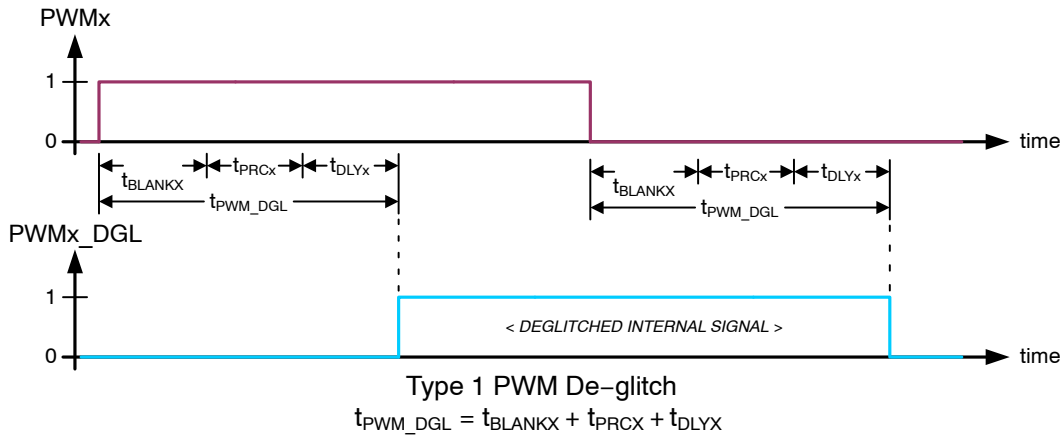
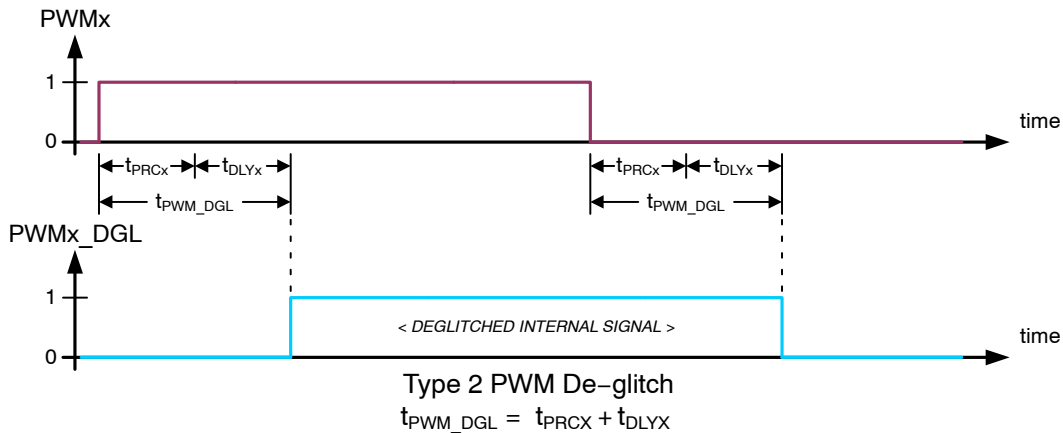

Figure 10. Type 1 PWMx Input De-glitch – CR14.DGLx = 0
Figure 11. Type 2 PWMx Input De-glitch – CR14.DGLx = 1
When multiple PWMx inputs are needed to be active, the scheduled PWM signals should be offset in time to avoid degradation of the VDS overload detection due to crosstalk (see § *Overload Protection*). The minimum offset should be based on the t_{PWM_DGL} times appropriate for the respective channels (see § *Switching Behavior of Half-bridge Drivers*, Figure 10 and Figure 11).
- adaptive PWM input de-glitch construction when in half-bridge configuration is selected by DGLx[6:0] bits (see Figure 10, Figure 11, Table 21 and Table 22).
When operating HB1...HB7 in PWM mode and in half-bridge configuration, type 1 de-glitch is selected when CR14.DGLx = 0 (see Figure 10) and the adapted time is given by:
Type 2 de-glitch is selected when CR14.DGLx = 1 (see Figure 11) and the adapted time is given by:
- the $PWMx_DGL$ resulting from the channel's operating configuration (see § *Switching Behavior of Half-bridge Drivers*, Figure 10 and Figure 11);